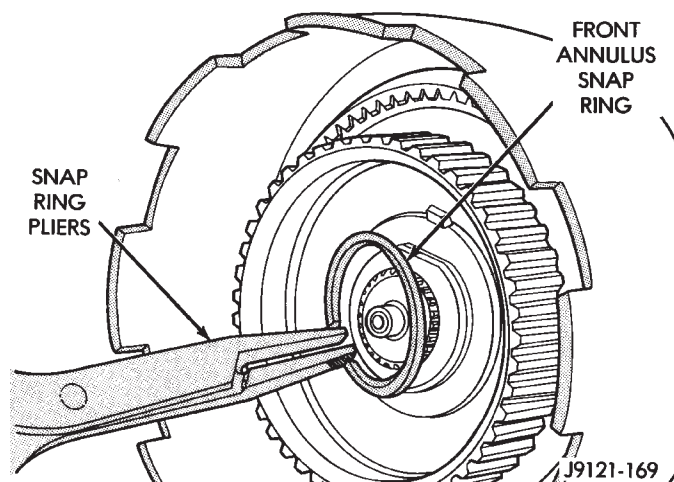

Fig. 179 Installing Front Annulus Snap Ring
(20) Install front annulus snap ring (Fig. 179). Use snap ring pliers to avoid distorting ring during installation. Also be sure ring is fully seated.